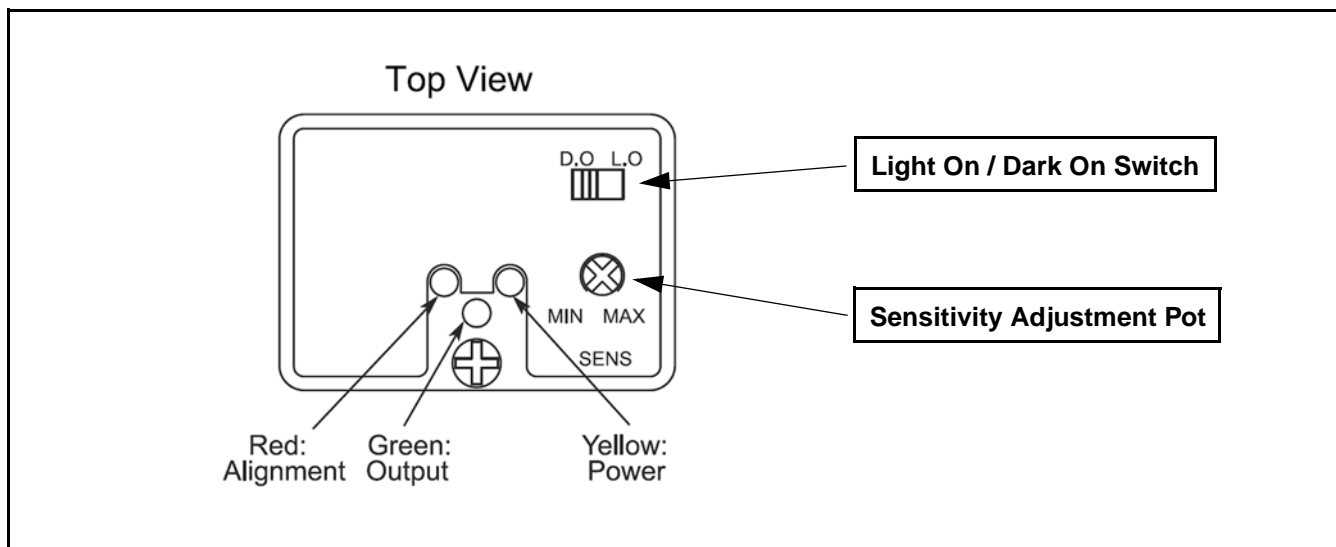

**Figure 25**
2. Wire and solder DC power to the two terminals of the provided DC power plug. Wire +VDC to the short lug (**Figure 25, item 1**) and -VDC to the long lug (**Figure 25, item 2**).